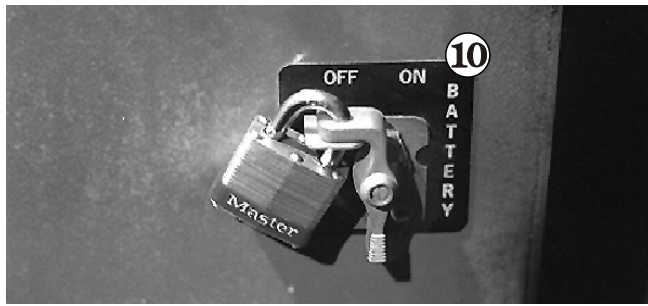

Figure 10.6
2. Set the **Battery** switch **10** (see Figure 10.6) to OFF and padlock it.